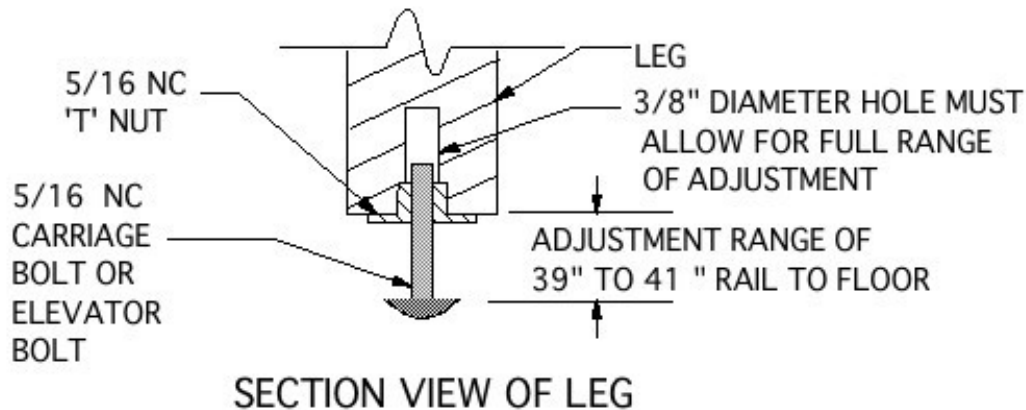

Figure 3: SUGGESTED LEG HEIGHT ADJUSTMENT
C. Legs - The nominal height of the railhead is 40" from the floor. Height must be adjustable $\pm 1"$ from the nominal 40" after the module is set up. The legs must not interfere with the installation of the front plastic panels. One method of providing the required height adjustment is shown in Figure 3.